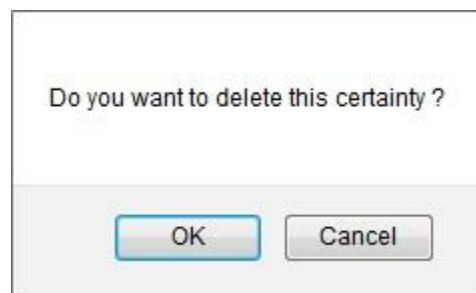

Figure 2.29
3. A pop up message appears. (Figure 2.29)
4. Click **OK** to delete or click **Cancel**. (Figure 2.29)